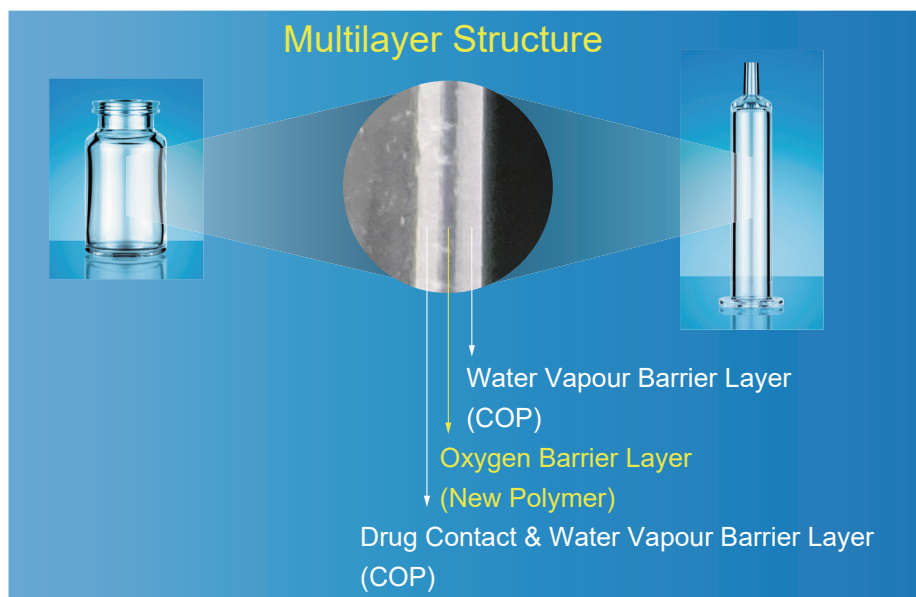

Figure 2: The multilayer structure.
are made of cyclo-olefin polymer (COP), and the oxygen barrier layer is made of our novel polyester (Figure 2). OXYCAPT possesses excellent oxygen barrier, high water vapour barrier and ultraviolet (UV) barrier properties, very low extractables, high pH stability, low protein adsorption and aggregation, a silicone-oil free barrel, high transparency, high break resistance, easier disposability and lighter weight.